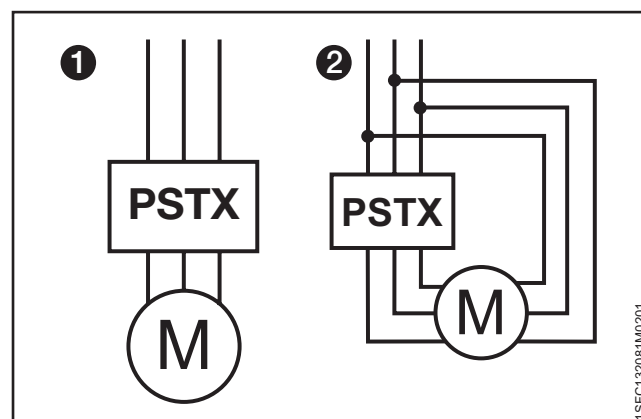
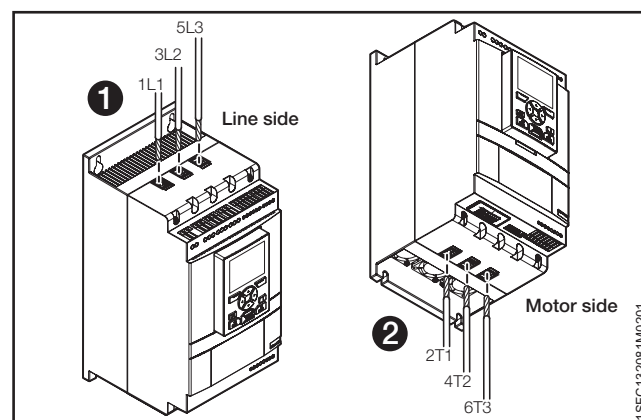
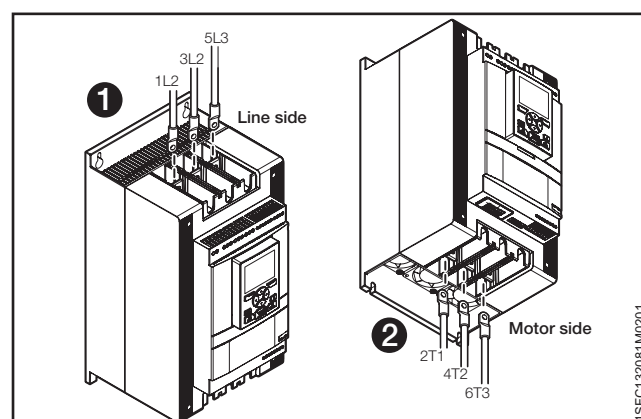

Figure 5.1
Figure 5.2
Figure 5.3
Softstarters PSTX30...PSTX1250 can be connected In Line, see **1 Figure 5.1**, and Inside Delta, see **2 Figure 5.1**. Use wire connection for PSTX30...105 see **Figure 5.2** Terminal connection for PSTX142...1250 see **Figure 5.3**.
- Connect the line side to terminals 1L1, 3L2, 5L3, see **1 in Figure 5.2 and Figure 5.3**.
- Connect the motor to terminals 2T1, 4T2, 6T3 on the motor side, see **2 in Figure 5.2 and Figure 5.3**.